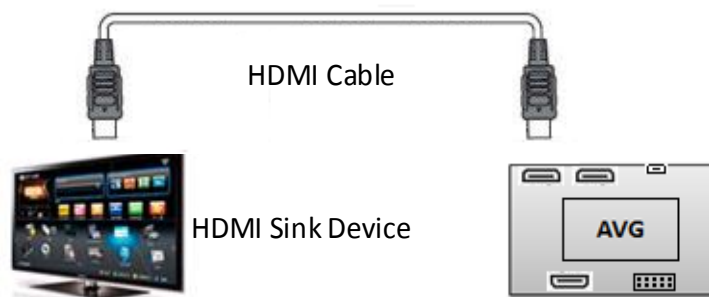

Figure 2.2. Connecting with HDMI Sink Device in Stand-alone Mode
- When testing with HDMI Sink device or the input port of the repeater device, connect the SL-881 to your sink device in the way shown in Figure 2.2.
- Use the HDMI cable to connect the HDMI sink device to the SL-881 HDMI OUT 1 port, as shown in Figure 2.2.
1. Use the HDMI cable to connect the sink device to the SL-881 HDMI OUT 1 port, as shown in Figure 2.2.